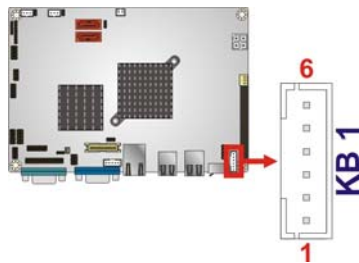

Figure 3-16: Keyboard/Mouse Connector Location
- CN Location:** See **Figure 3-16**